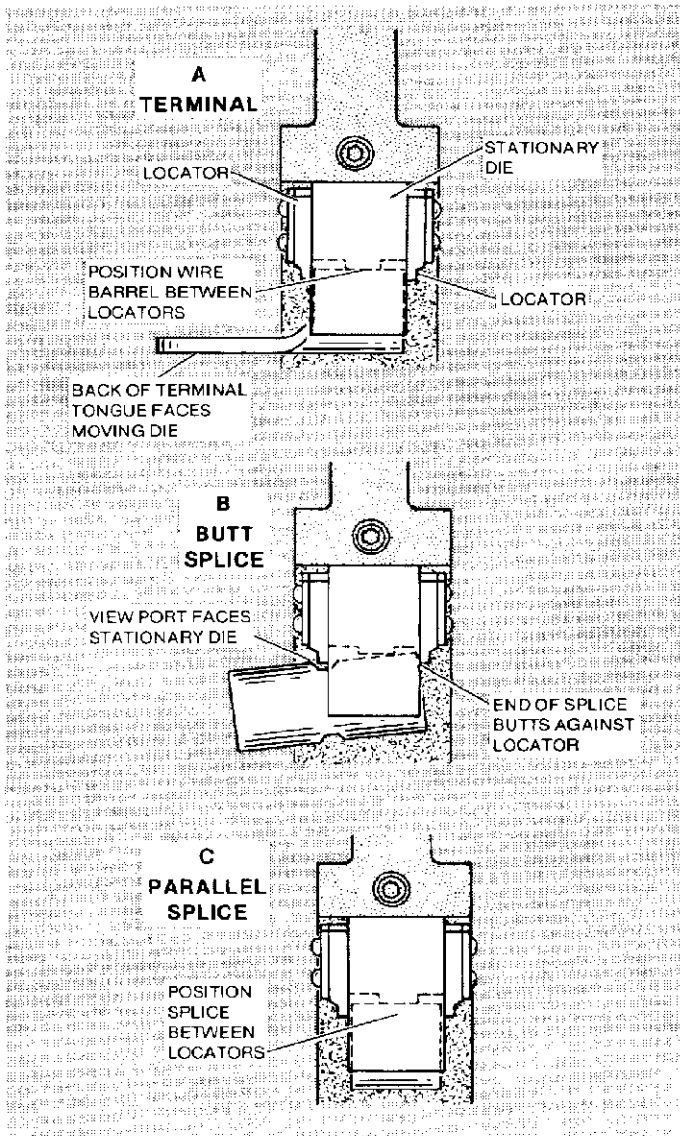

Figure 4
- (b) Position terminal wire barrel between locators of stationary die as shown in Figure 4, Detail A. Back of terminal tongue must face moving die.
- (a) Position butt splice in stationary die so that end of splice butts against locator as shown in Figure 4, Detail B. View port in splice faces stationary die.
- (a) Position splice between locators as shown in Figure 4, Detail C.